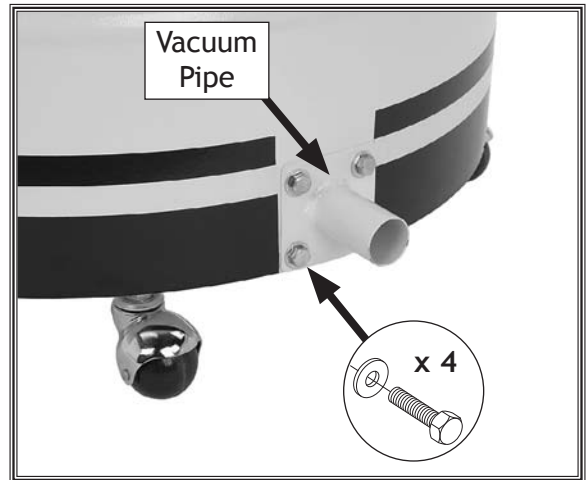

Figure 25. Collection drum vacuum pipe installed.
21. Insert the collection drum vacuum pipe through the side of the bottom drum, as shown in Figure 25, then secure it in place with (4) $\frac{5}{16}$ "-18 x $\frac{3}{4}$ " hex bolts and (4) $\frac{5}{16}$ " flat washers.